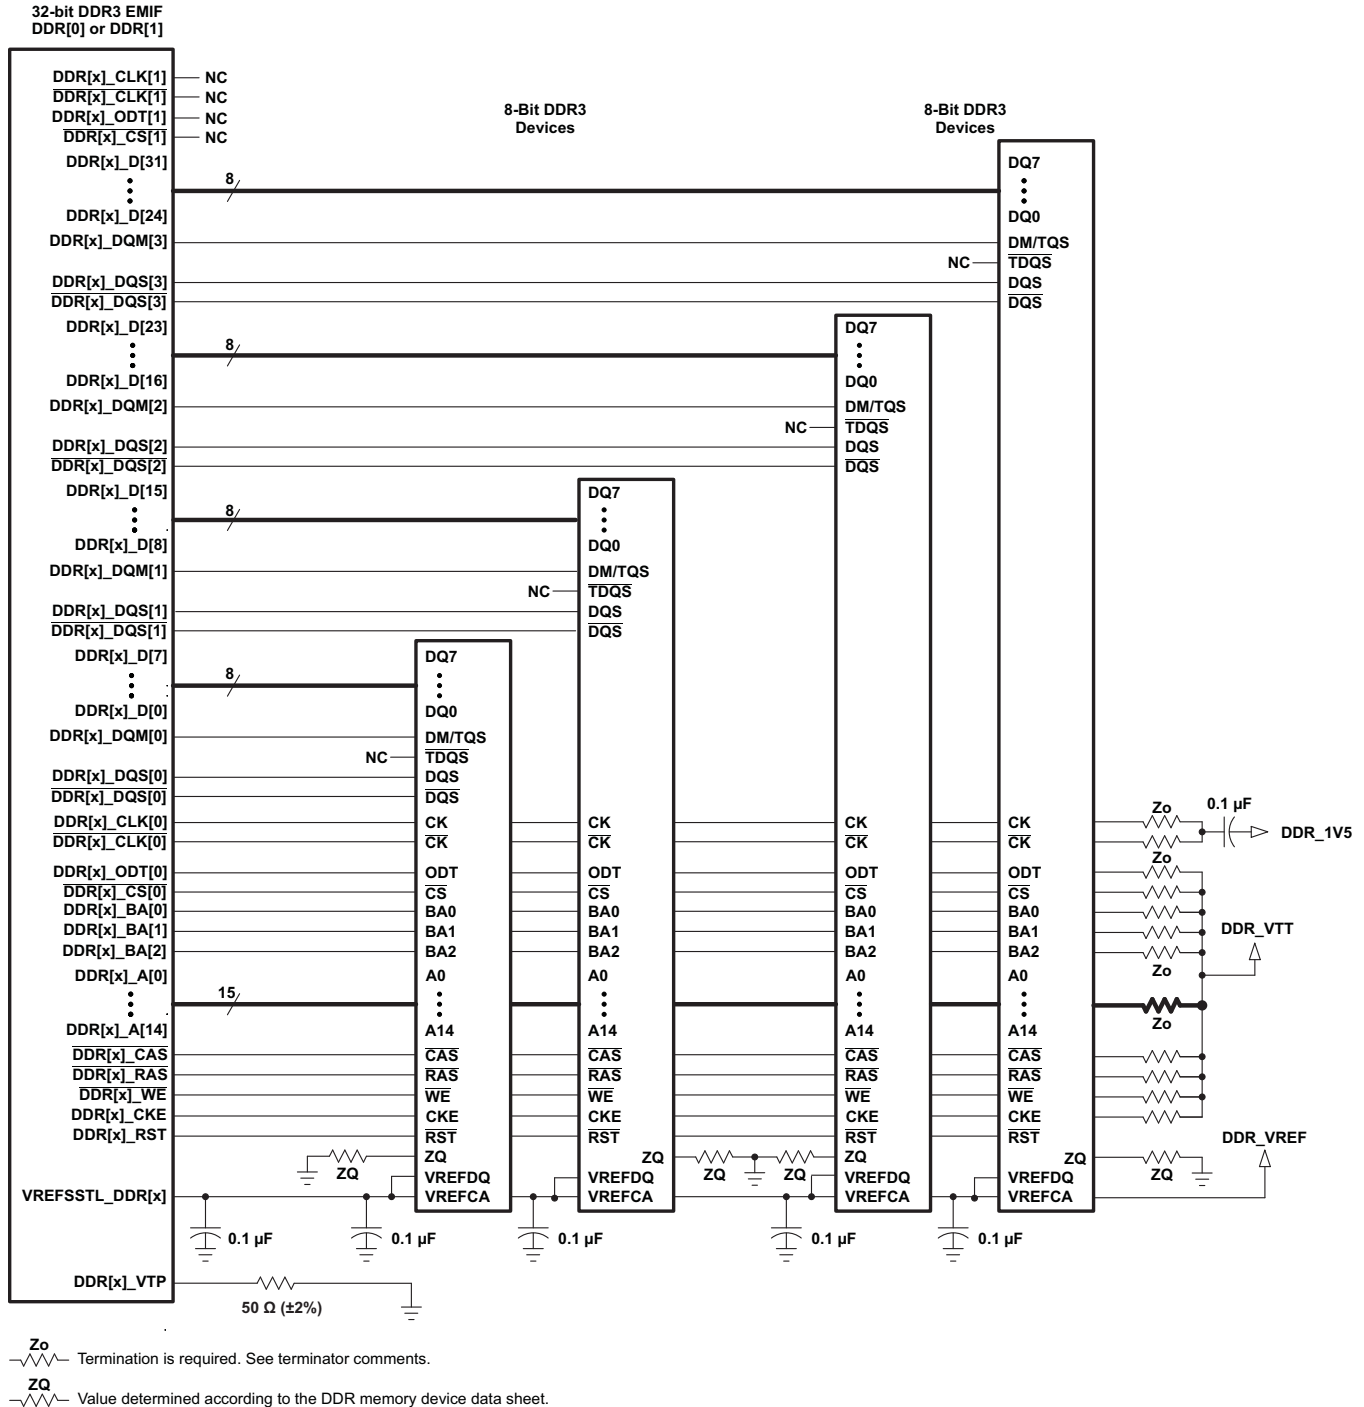

Figure 8-14. 32-Bit, One-Bank DDR3 Interface Schematic Using Four 8-Bit DDR3 Devices
The DDR3 interface schematic varies, depending upon the width of the DDR3 devices used and the width of the bus used (16 or 32 bits). General connectivity is straightforward and very similar. 16-bit DDR devices look like two 8-bit devices. Figure 8-13 and Figure 8-14 show the schematic connections for 32-bit interfaces using x16 devices.
Note that the 16-bit wide interface schematic is practically identical to the 32-bit interface (see Figure 8-13 and Figure 8-14); only the high-word DDR memories are removed and the unused DQS inputs are tied off. The processor DDR[x]_DQS[2] and DDR[x]_DQS[3] pins should be pulled to the DDR supply via 1-kΩ resistors. Similarly, the $\overline{\text{DDR}}[\text{x}]_{\text{DQS}}[2]$ and $\overline{\text{DDR}}[\text{x}]_{\text{DQS}}[3]$ pins should be pulled to ground via 1-kΩ resistors.
(1) DDR3 speed grade depends on desired clock rate. Data rate is 2x the clock rate. For DDR3-1600, the clock rate is 800 MHz.
(2) For valid DDR3 device configurations and device counts, see Section 8.3.2.3, Figure 8-13, and Figure 8-14.